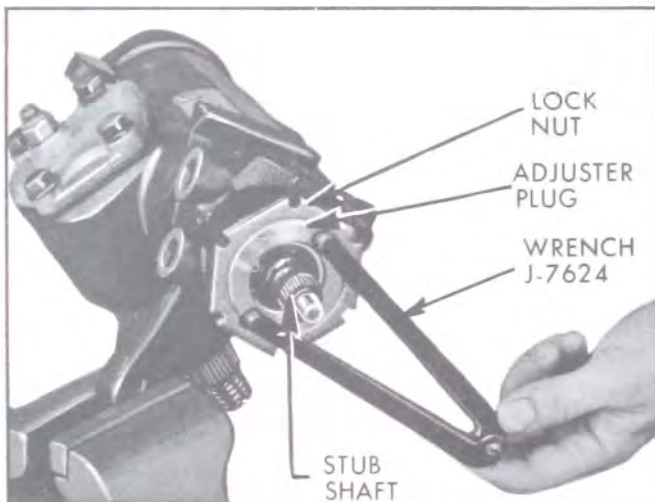

Figure 8-43—Removing Adjuster Plug Assembly
4. Loosen adjuster plug lock nut and remove adjuster plug using adjustable spanner wrench, J-7624. See Figure 8-43.